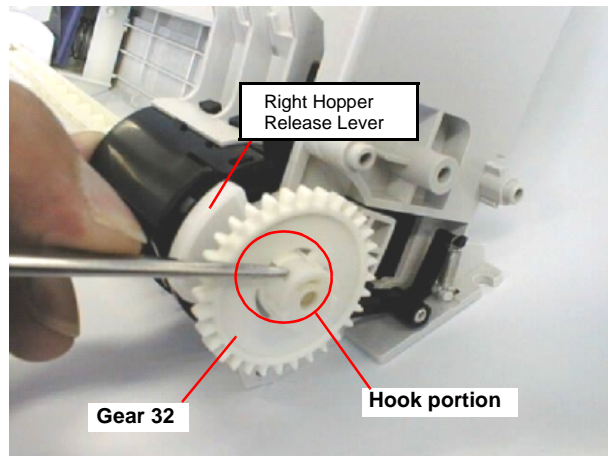

Figure 4-33. Removing the Gear 32 & LD Roller
- 2) Remove the Gear 32 from the right edge of the LD Shaft by releasing the hook in the Gear 32. Refer to Figure 4-33.
- 3) Remove the Right Hopper Release Lever from the right edge of the LD Roller Shaft. Refer to Figure 4-33.